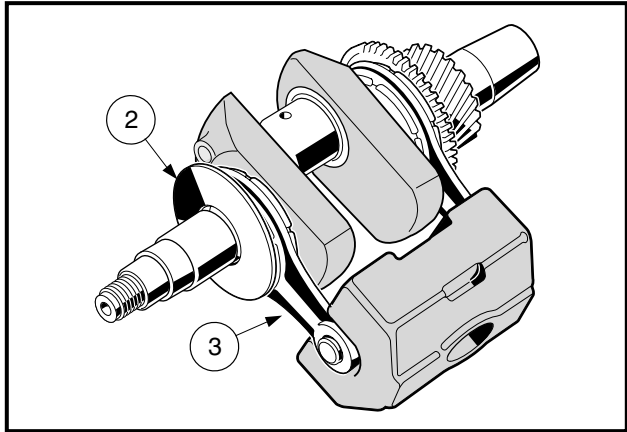

Figure 13-73 Crankshaft and Counterbalance
2. Pull out the crankshaft and the counterbalance together as an assembly (**Figure 13-73, Page 13-36**).
1. Slide the spacer (2) and the link rod (3) off the flywheel end of the crankshaft. Remove the counterbalance from the remaining link rod (**Figure 13-73, Page 13-36**). **Go to Link Rod Inspection on page 13-37.**